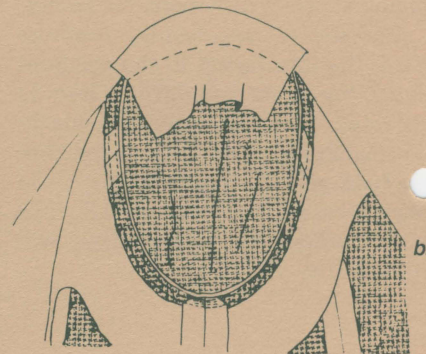

Figure 22b.
- Stitch along the marked line catching only the seam allowance (Figure 22b).